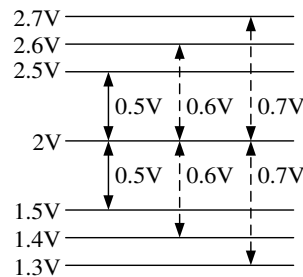
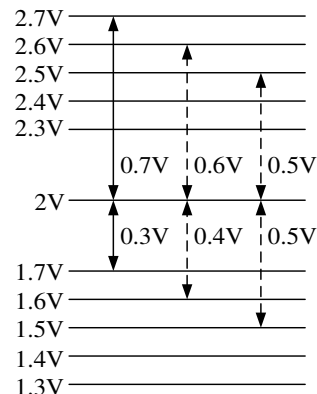

Figure 15. Adjust W2 or W4
Figure 16. Adjust W3 or W5
- 5. Set output voltage limit. Adjust the potentiometer W4 to set the voltage limit. TP VLIM is the test point for W4. After the VLM is tuned properly, adjust W5 to achieve different voltage limit for heating and cooling. TP VLIM is the test point for W5. As is shown in Figure 15 and Figure 16.
Set output current limit. Adjust the potentiometer W2 to set the current limit. TP ILIM is the test point for W2. After the current limit is tuned properly, adjust W3 to achieve different ILM for heating and cooling. TP ILIM is the test point for W3. As is shown in Figure 15 and Figure 16.